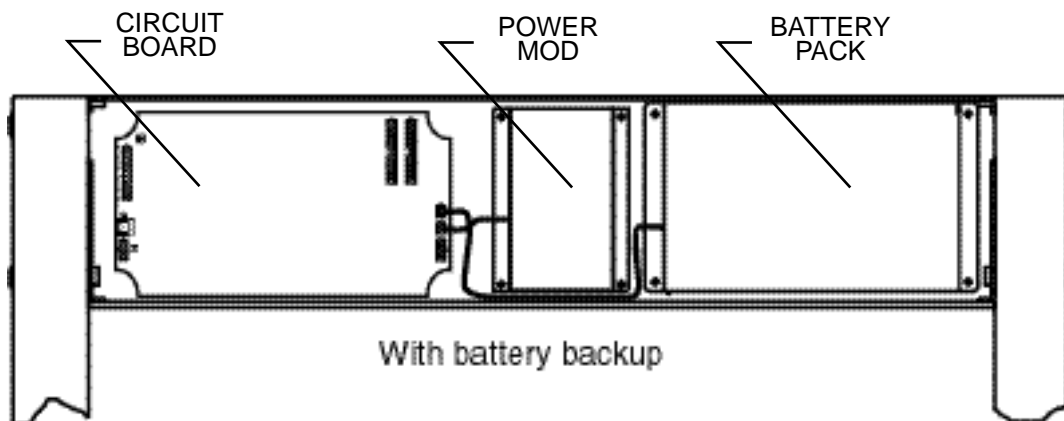

Figure 11-9
7. Reconnect the power supply and battery pack modules. (See Figure 11-9.)